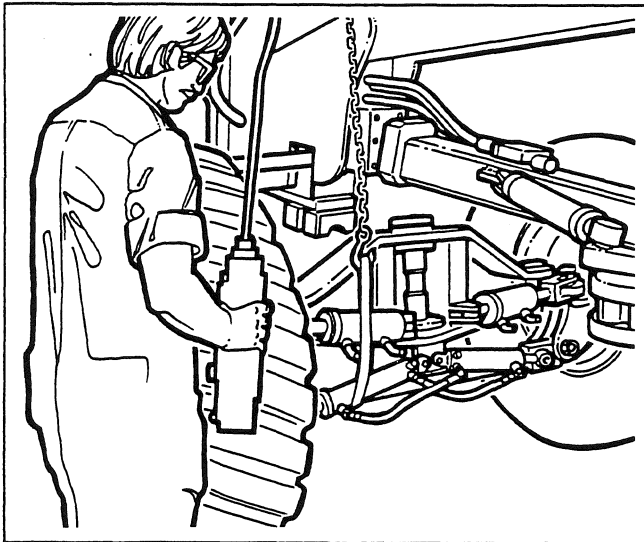

Fig. 2
10. Remove the bolts (16) and lockwashers (17) retaining the lower mounting block halves (15). Remove the lower mounting block halves.
12. Lower the lifting device and allow the front axle to roll over slowly (see Fig. 2). Remove the lifting device and roll the front axle away from the grader.